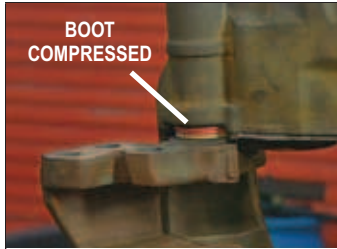

FIGURE 84 - BOOTS MUST BE COMPRESSED FULLY DURING CAP INSTALLATION
5.6.38 See *Figure 84*. Place the caliper/carrier assembly on a bench so that the inner boots are fully compressed, check that the bores are clean and dry (e.g. free from lubrication).